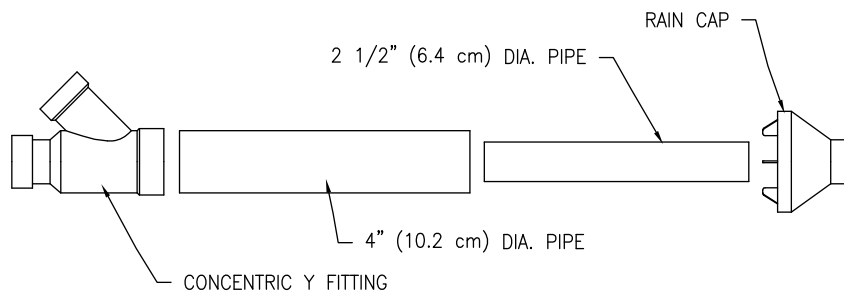
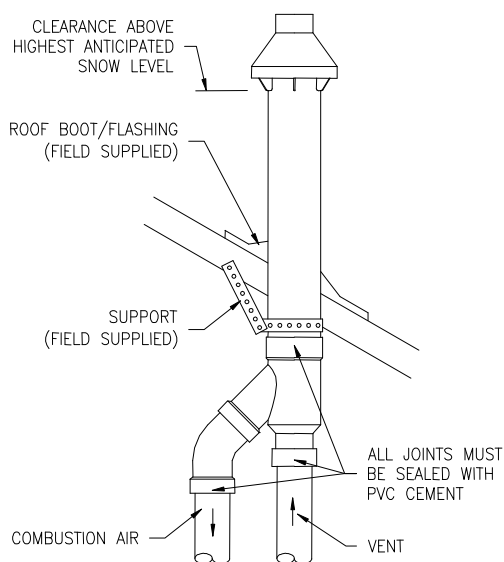

Figure 20. Concentric Vent Kit Part Identification
Figure 22. Concentric Vent Roof Top Attachment
- a. Cement concentric Y fitting to larger diameter pipe. (See Figure 20).
6. Secure assembly to roof structure as shown in Figure 22 using field-supplied metal strapping or equivalent support material.
Ensure termination height is above the roof surface or anticipated snow level. Figure 22.
8. Cement water heater combustion-air and vent pipes to concentric Y fitting assembly (Figure 20). See Figure 22 for proper pipe attachment.
- a. Cement Y concentric fitting to larger diameter kit pipe. (See Figure 20).